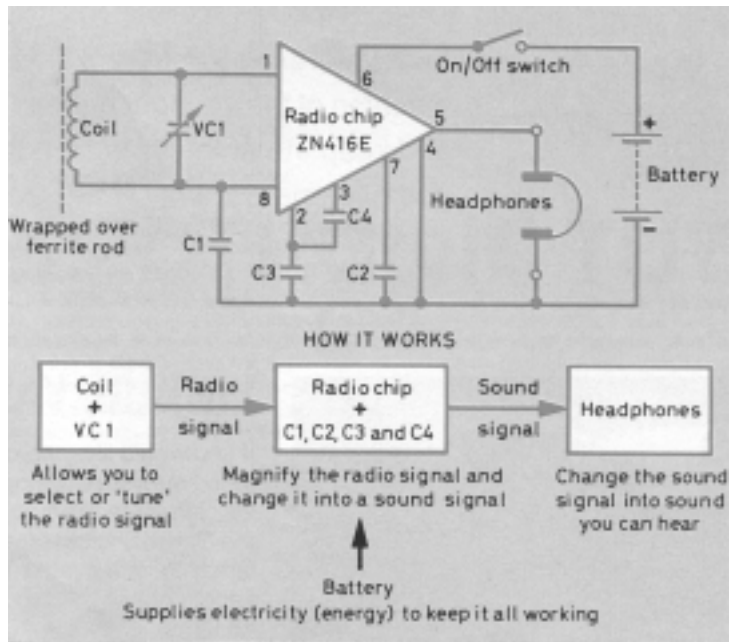

Figure 1 Circuit and block diagrams of the radio
This design came from the Norfolk Amateur Radio Club, and enables you to build a simple Amplitude Modulation (AM) receiver for frequencies between 600 kHz and 1600 kHz. It should take you around 2 hours to build, and can be used with Walkman-type earpieces. **Figure 1** shows the circuit diagram.
This project has nothing to do with radio but, let's admit it, *any* electronics project is good experience! Why not build this little organ – it will keep the children amused at least! It uses the popular NE555 integrated circuit, which contains a circuit which will periodically switch the voltage on the output pin between the supply voltage and zero. Just how frequently this switching occurs depends upon the components external to the integrated circuit. If this switching occurs several hundred or thousand times a second, the change in voltage produced will generate a musical note when connected to a small loudspeaker. The circuit is shown in **Figure 1**.